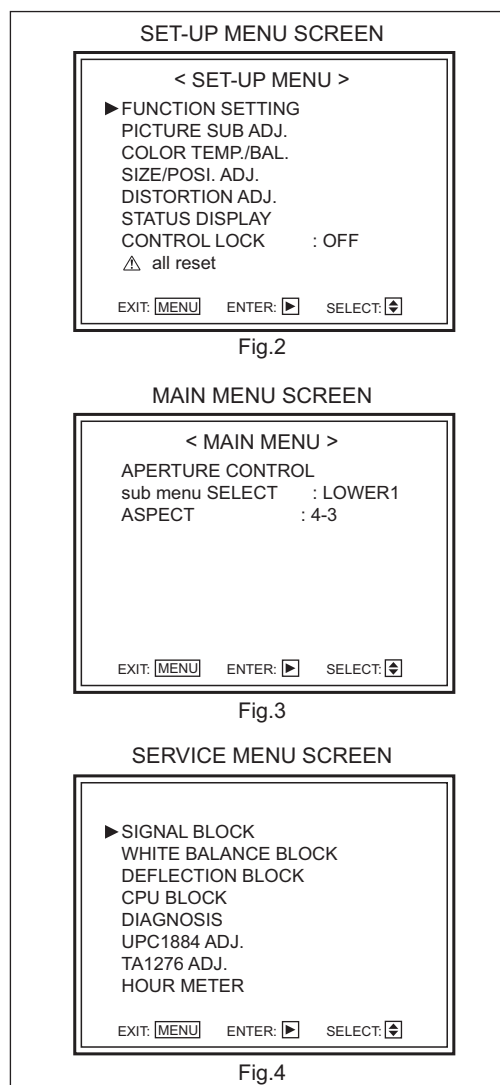

Fig.4
- Check the initial setting values of the items in the SERVICE MENU (Fig.4). If any items are set differently, set it as required.